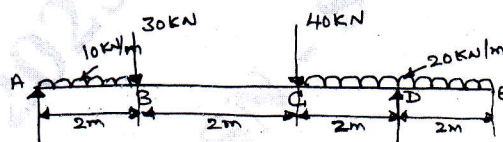

Fig.Q3(b)
- b. For the beam as shown in Fig.Q3(b), draw the shear force and bending moment diagram locate the point of contra flexure if any.